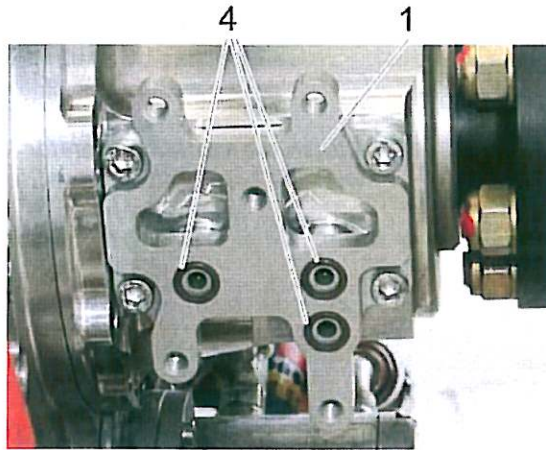

Figure 12
6. *Fit one O-ring (item 4) into each of the three designated places at the adapter plate (item 1). See Figure 12.*